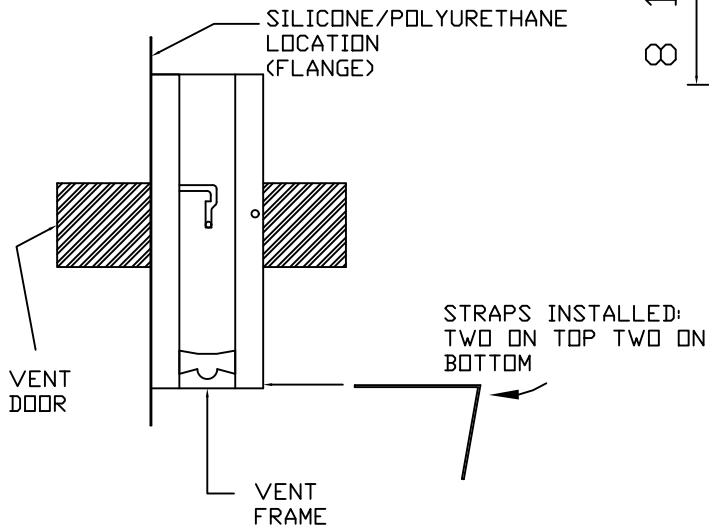

FIGURE 2
3. Apply a bead of silicone or polyurethane caulk around the back of the flange on the vent frame. (FIG. 2)